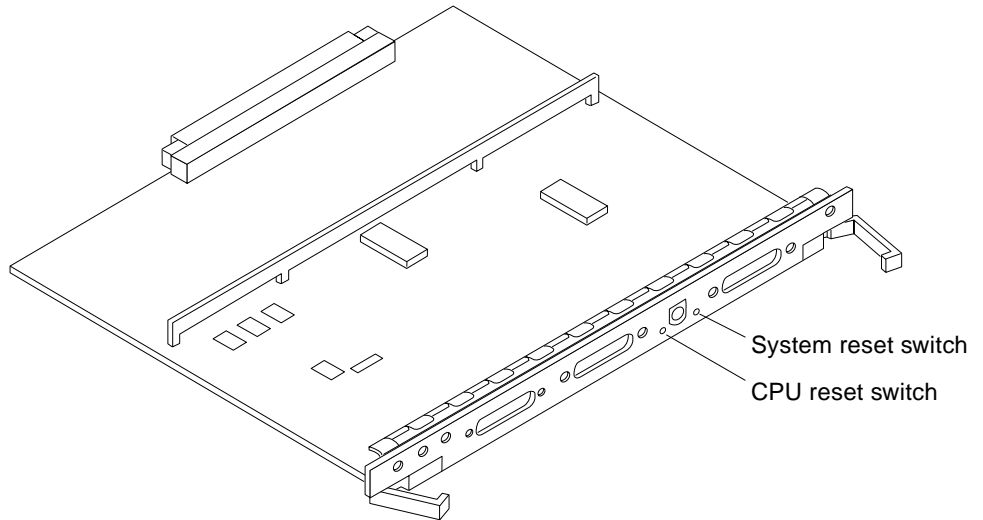

FIGURE 11-3 System Reset Switch on Clock+ Board
7. To start POST again, or if the system hangs, press the CPU reset switch on the clock+ board (FIGURE 11-3).